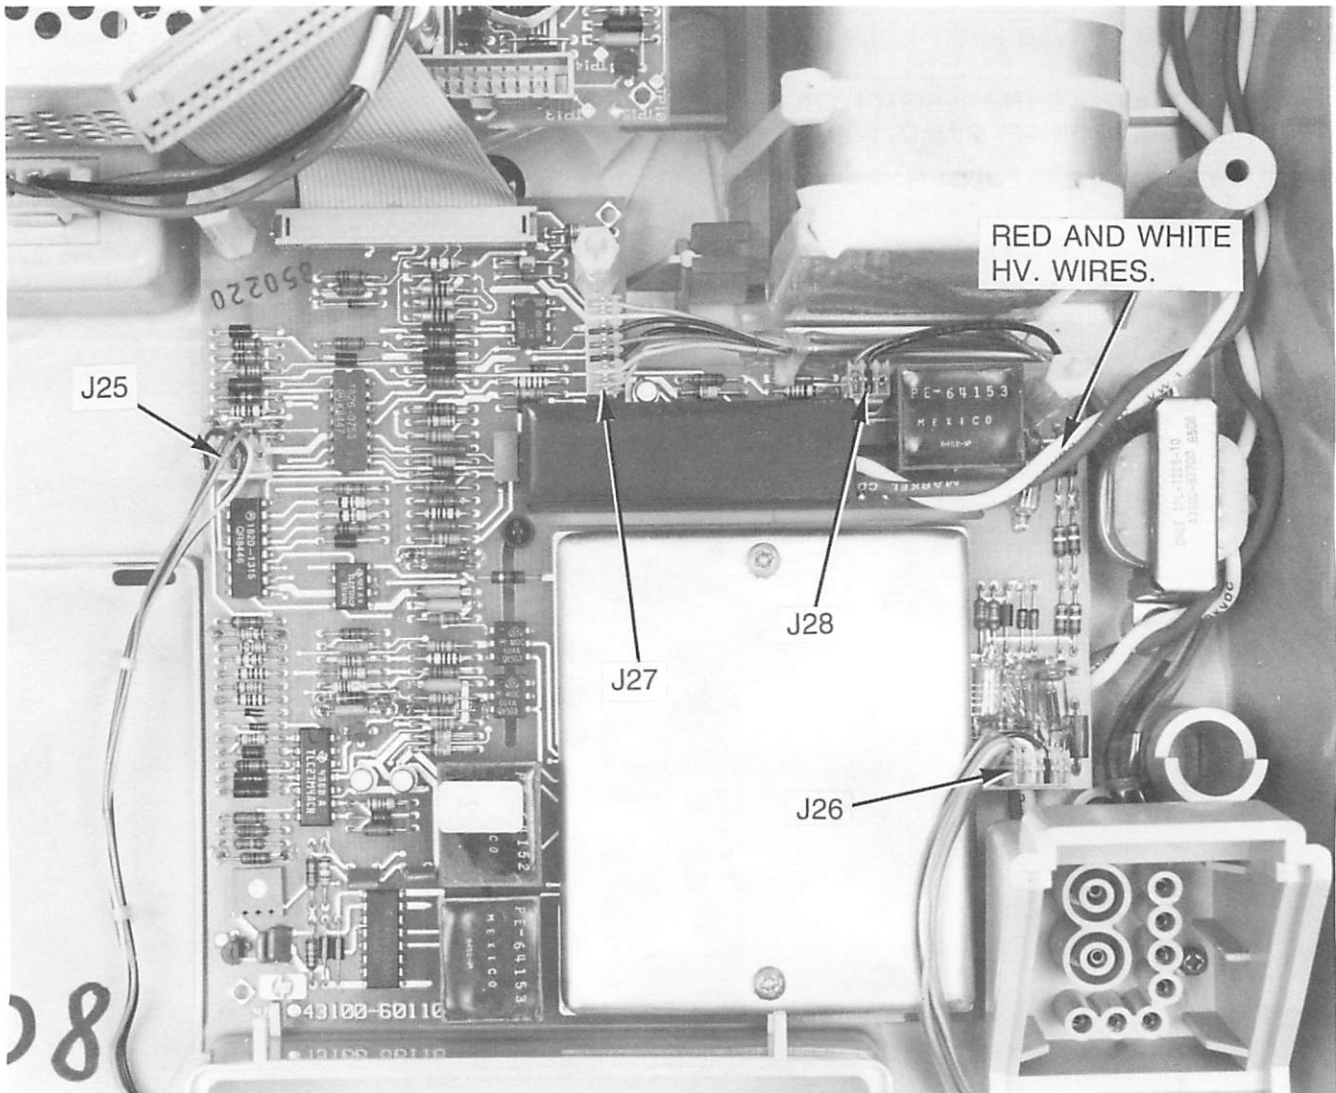

Figure 4-7.
2. Disconnect J25, J26, J27 and J28. See Figure 4-7. Follow the red and white H.V. wires back to the junction connectors and disconnect these wires.